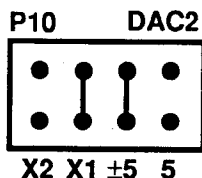

Fig. 1-11 — DAC 2 Output Voltage Range Jumper, P10
This header connector, shown in Figure 1-11, sets the output voltage range for DAC 2 at 0 to +5, ± 5 , 0 to +10, or ± 10 volts. Two jumpers must be installed, one to select the range and one to select the multiplier. The two rightmost jumpers select the range, bipolar (± 5) or unipolar (5). The two leftmost jumpers select the multiplier, X2 or X1. When a jumper is on the X2 multiplier pins, the range values become ± 10 and 10. The table below shows the four possible combinations of jumper settings, and the diagram shows the factory setting. This header does not have to be set the same as P9.